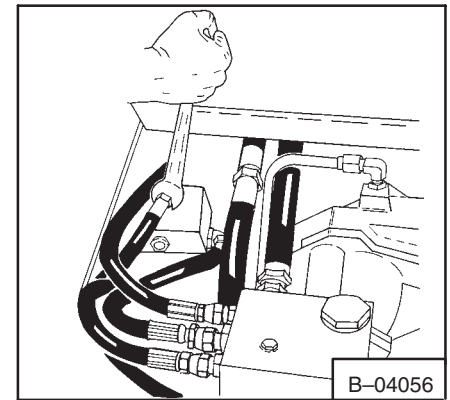

Fig. 2-66 Removing Hydraulic Valve Inlet Hose
1. Remove the operator cab. Remove the hose between the outlet of the hydraulic pump and the inlet of the hydraulic control valve (Fig. 2-66).